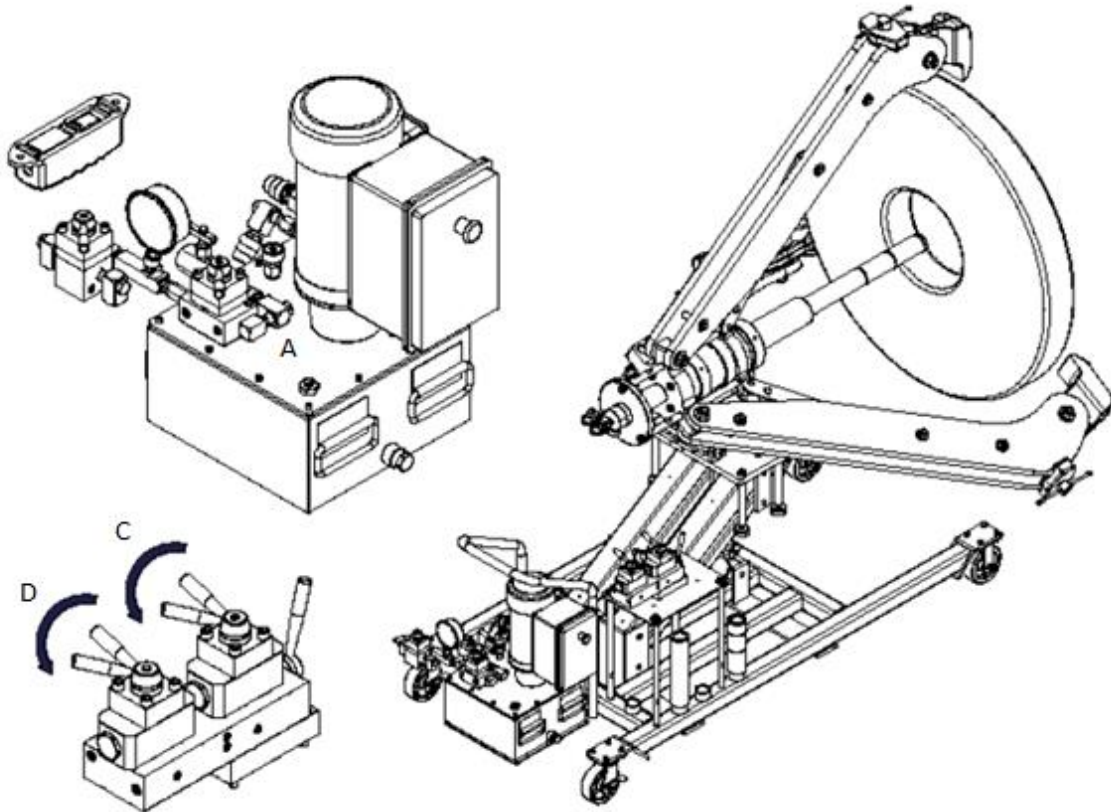

Figure 9 – Opening the Jaws
- 5.4.3 Switch the power unit and control panel valve handles (A, C, D) as shown in Figure 9 to open the jaws.